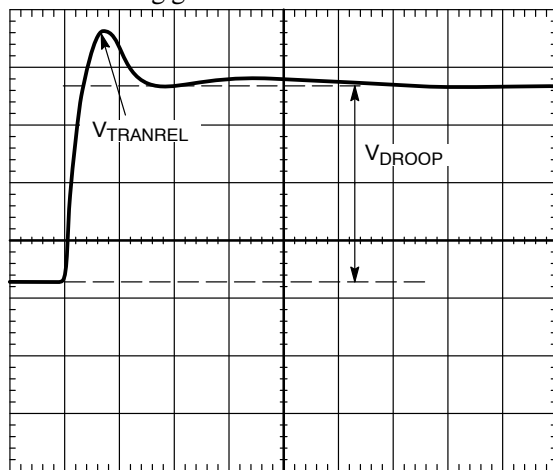

Figure 34. Transient Setting Waveform, Load Release
21. For load release (see Figure 34), if  $V_{TRANREL}$  is larger than the IMVP-6 specification, there is not enough output capacitance. Either more capacitance is needed or the inductor values need to be smaller. If the inductors are changed, then start the design over using Equations 1 to 38 and this tuning guide.